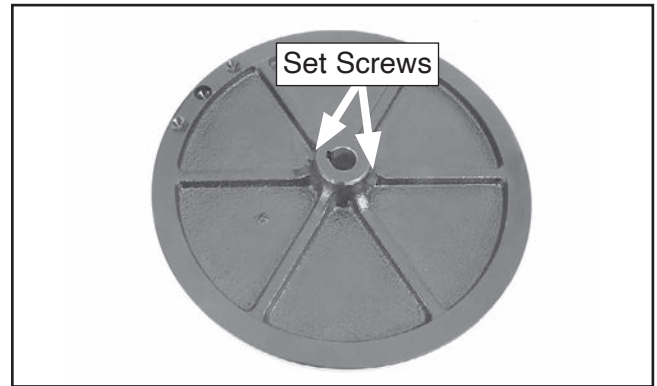

Figure 28. Set screw locations on sanding disc plate.
20. Loosen, but do not remove, the shaft set screws on the cast iron plate so they are backed out of the shaft hole and keyway (see **Figure 28**).